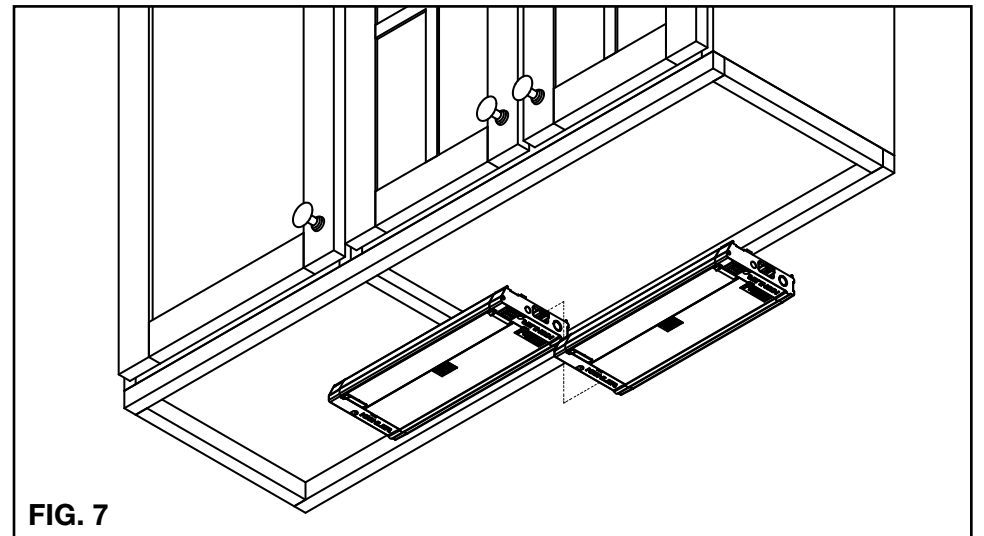

FIG. 7
4. Drive mounting screws into cabinet surface until fixture is secure. If screws are difficult to install, mark holes, remove fixture and drill 1/16" maximum pilot holes. (ref. FIG.7) **NOTE:** For 22" and 30" fixtures, open wire compartment by inserting flathead screwdriver into the slots and wedging cover open to install center screw. Once installed, swing the cover towards the fixture and close it by pressing at the ends of the cover until the cover snaps into place and is flush with the fixture.